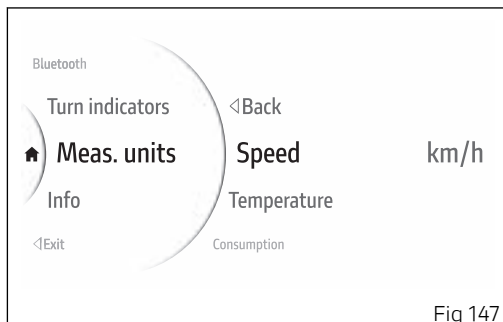

Fig 147
- Use buttons (1) and (2) from the Interactive Menu to select the "Setting menu" item and press ENTER (3).
- Select the "Measurement Units" item and press ENTER (3).
- Select the "Speed" item and press ENTER (3) (Fig 147).